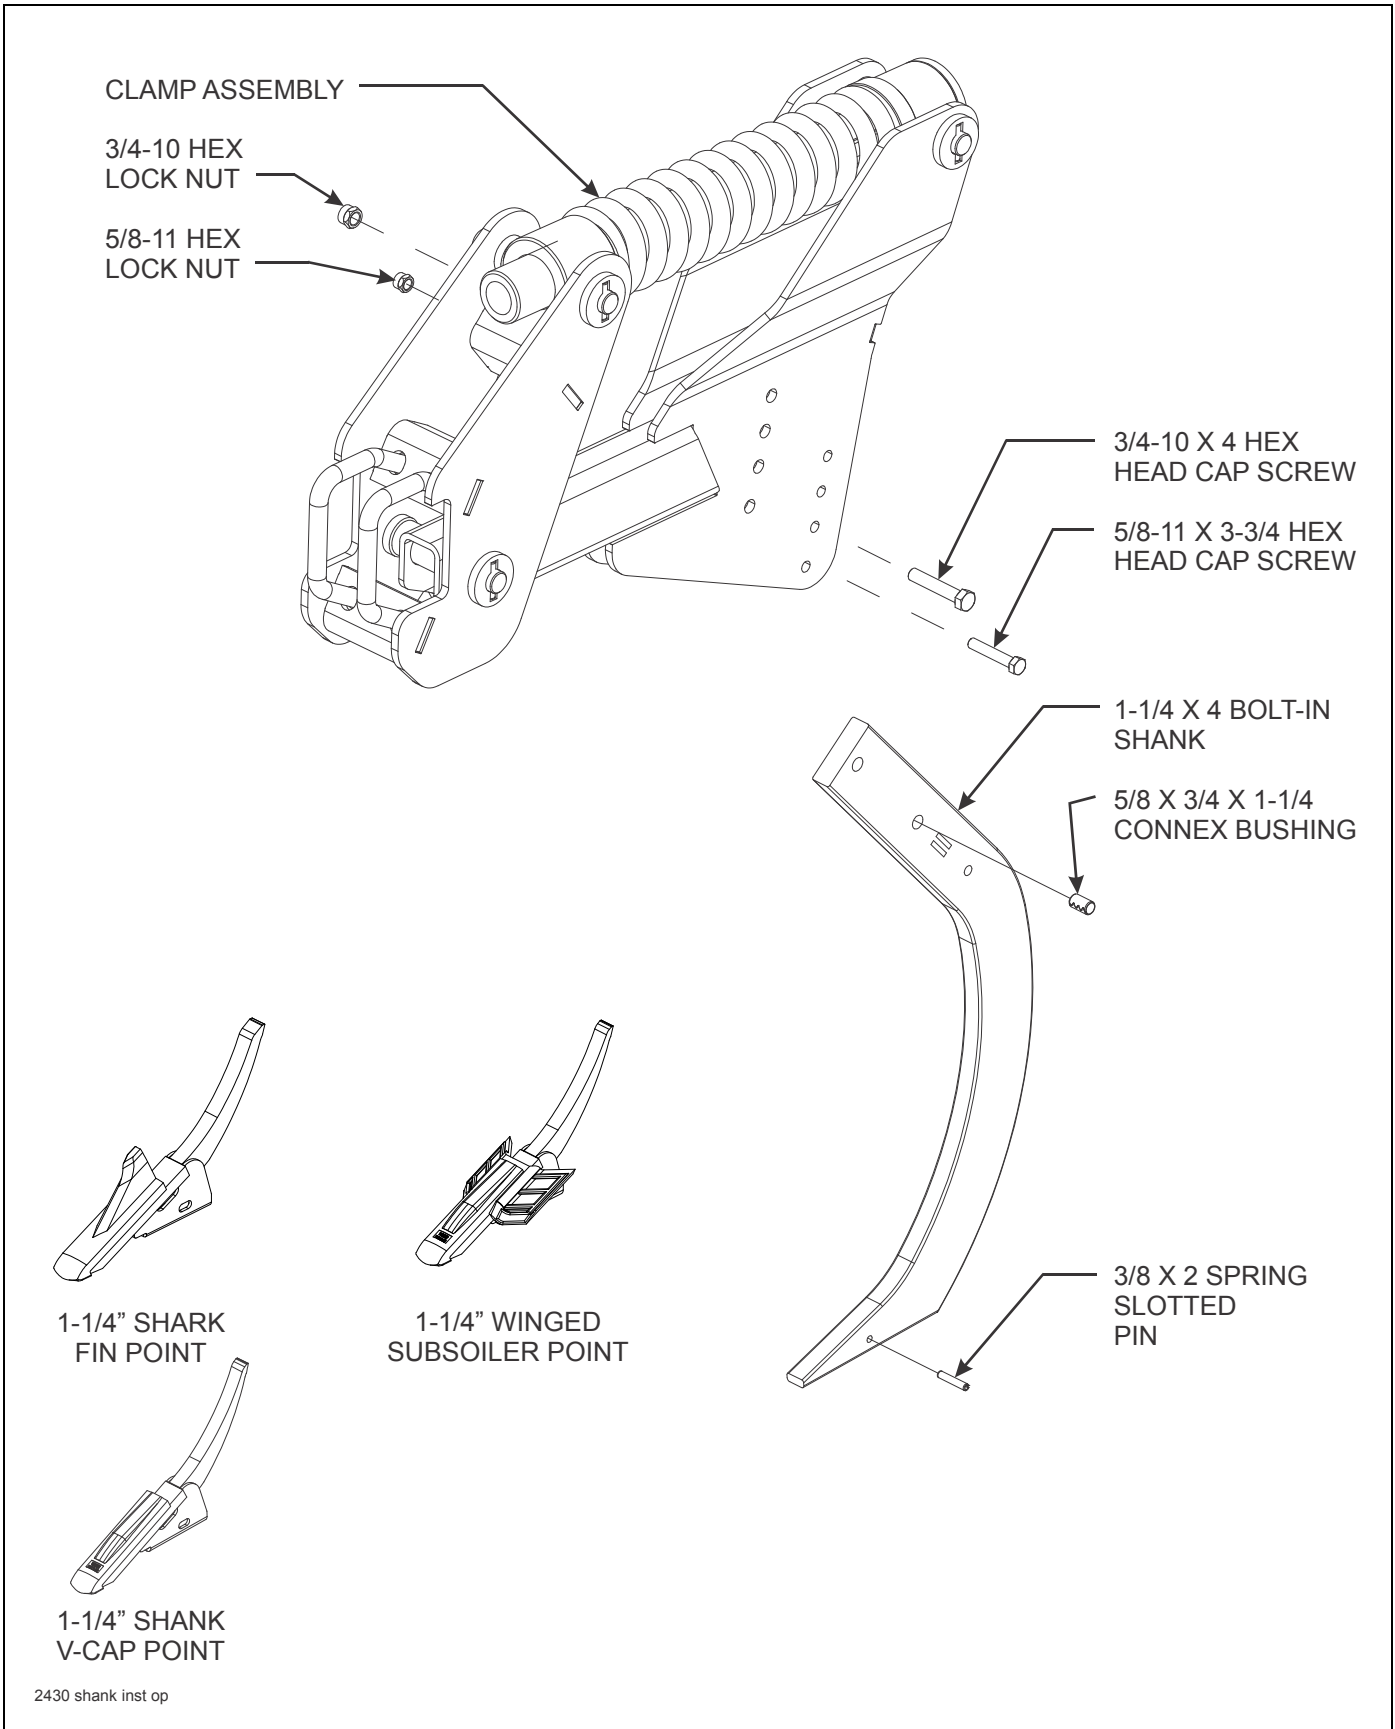

Figure 3-8: Auto Reset Shank and Point Installation
1. Attach each shank assembly to each clamp assembly using 3/4-10 x 4 hex head cap screws, 5/8-11 x 3-3/4 hex head cap screws, 5/8 x 3/4 x 1-1/4 connex bushing, and hex lock nuts (**See Figure 3-8.**)